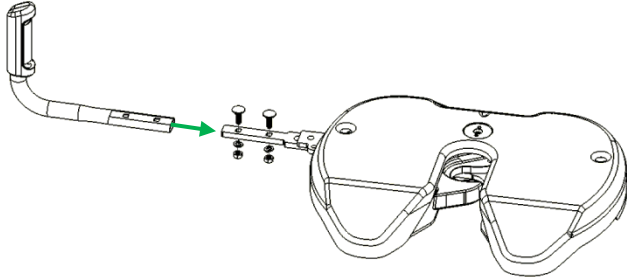

FIG. 2
1. Slide handle over the bar as shown in figure 2, and securely tighten with carriage bolts, lock washers and nuts with M13 wrench. Handle should be snug.